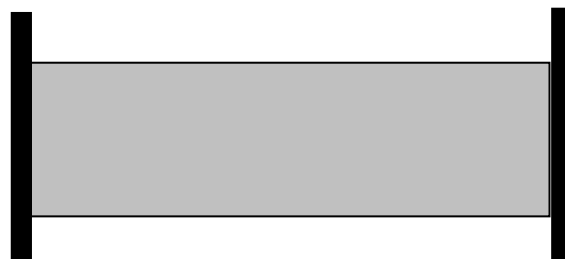

Figure 8
- e. From your observations, sketch the magnetic field on the diagram at figure 8.